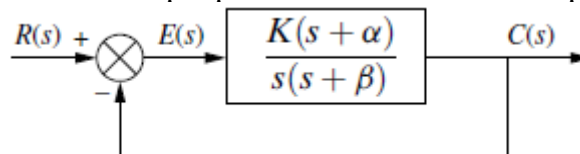

Fig. 13
13. for the unity feedback control system shown in Fig. 13, design the values of  $K$ ,  $\alpha$ , and  $\beta$  to meet the following requirements: